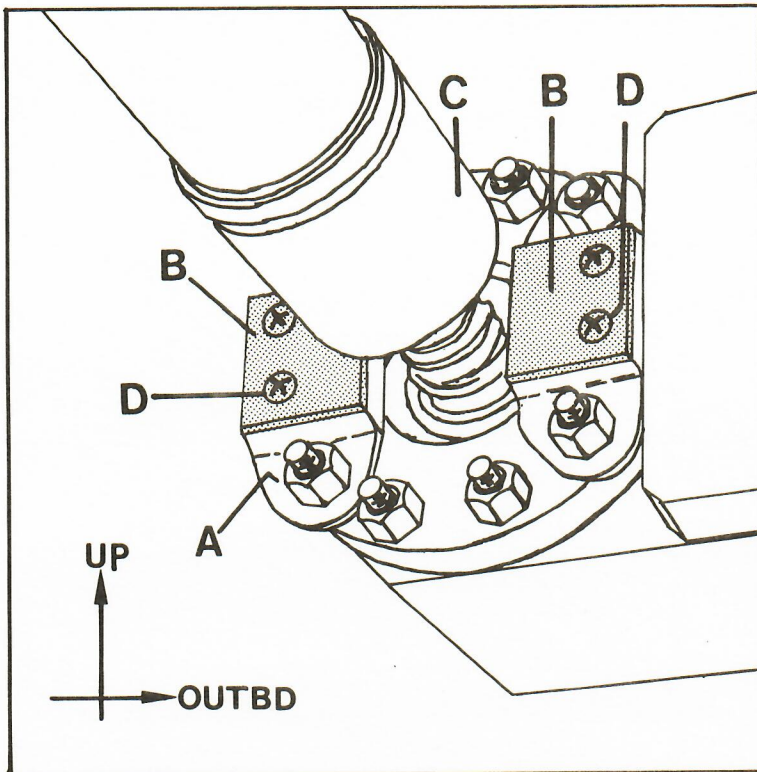

Figure 1 Mechanical Down Stop
4. Partially retract gear and install the proper down stop/spacer combination as shown in Figure 1.